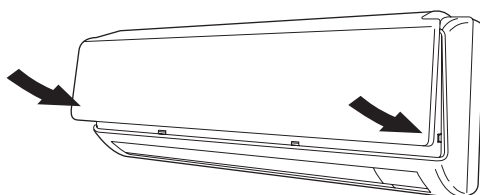

Fig. 19b
- (b) Press the bottom right and left corners of the air intake grille to attach it to the indoor unit. (Fig. 19b)